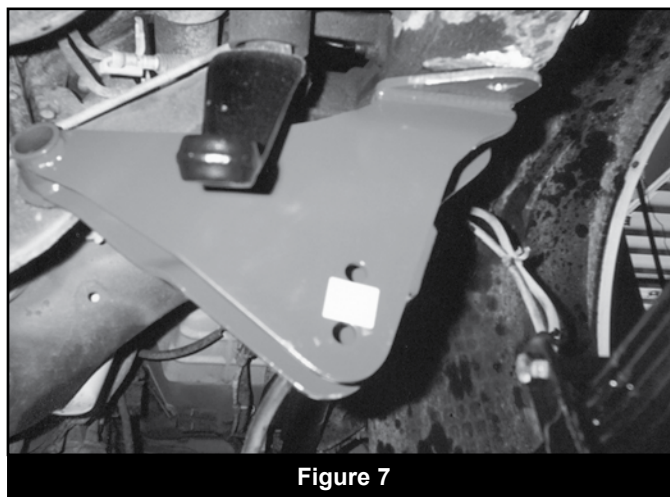

Figure 7
19. Install the new track bar bracket (01057 or 01067) to the original bracket mount points (Fig 7). Fasten with the factory hardware. Torque bolts to 65 ft-lbs.